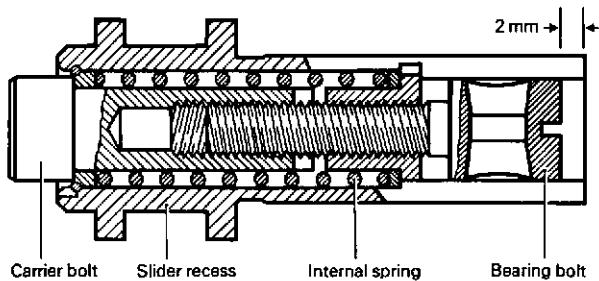
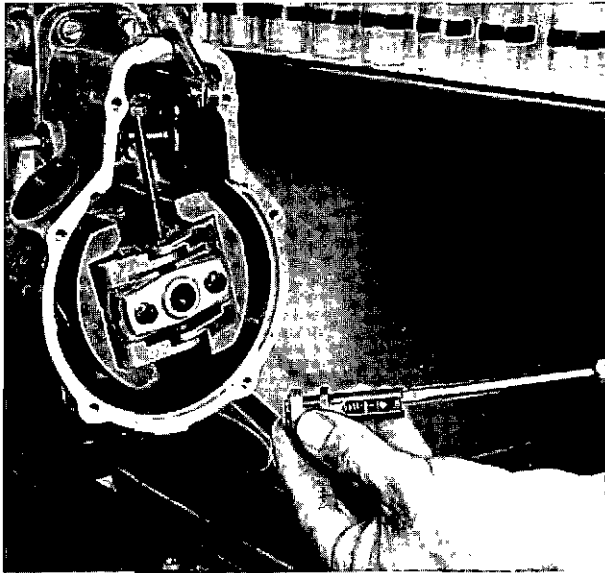

Fig. 48 Adjusting pin - sectioned.
Fig. 50 Adjusting pin and coupling bolt.
This pin (fig. 48) connects the flyweight coupling bolt to the slider in the governor hub. Check that its spring and bearing surfaces are serviceable. The setting of the pin should not be disturbed unnecessarily but if adjustment is unavoidable it should be carried out as described later, under 'ASSEMBLING' and also in Part 4, Stage 'B'.
3. Check that the internal spring of the adjusting pin (fig. 48) has no end play and yet is not compressed. Adjust, if necessary, by turning the castellated carrier bolt relative to the eyed bearing bolt at the opposite end. Finally, set the bearing bolt 2 mm. below the end face of the adjusting bush, as shown, and assemble the adjusting pin to the guide bush bore, securing it by temporarily fitting the coupling bolt (fig. 50), which passes through the eye of the bearing bolt.
4. Pull the adjusting pin rearwards sufficiently to draw the flyweights inwards, but without exerting excessive load on the internal spring of the pin. In this position the measuring gauge 1 682 329 038 should fit snugly into the slider recess of the adjusting pin (figs. 48 and 51). Adjust, if necessary, by means of the bearing bolt in the adjusting pin, as shown in fig. 50.